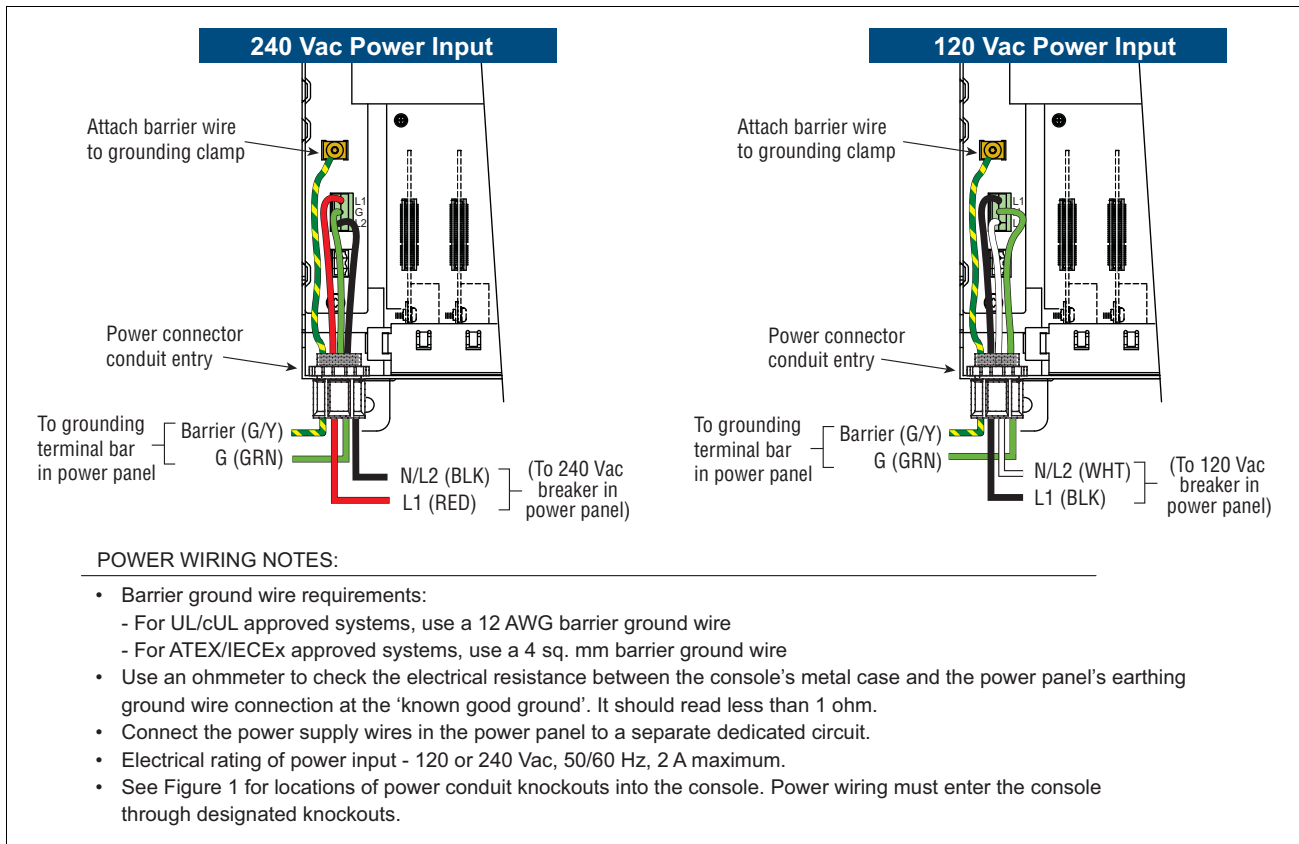

Figure 5. Wiring AC Power To The TLS-450PLUS Console
4. Next strip the ends of the power wires brought into the console. Referring to Figure 5 and to the locations printed where the power connector attaches to the console, attach the L1, panel ground and neutral wires (#14 AWG) to the connector block.
5. Next, attach the barrier ground (sized as shown in Figure 5) to the grounding clamp.